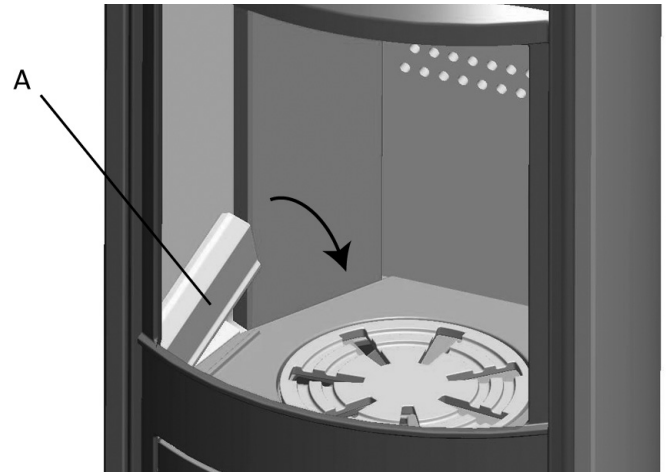

Figure 18. Install the cast iron burn plates.
4. Place the two cast iron Burn Plates into position under the side windows. Fig. 18, A.